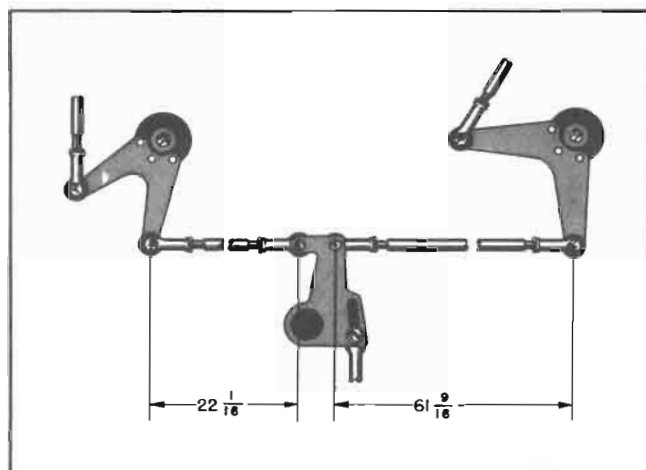

Figure 116 — Inboard Control Rod Adjustment
6. Obtain a length of  $22\frac{7}{16}$  inches from the center of the outboard rod-end fitting hole and the inboard rod-end fitting hole. Connect it to the vertical bell crank in the left wheel well. Obtain approximately  $61\frac{9}{16}$  inches from the center of the rod-end fitting hole to the center of the opposite rod-end hole on the right inboard control rod. (See figure 116.)